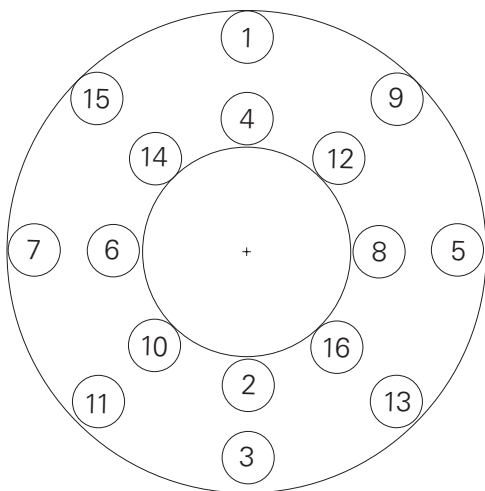

Figure 18
- (a) For the first 16 screws, bring the initial torque of each screw up to 33% of the torque value shown in Table 11 using the tightening sequence shown in Figure 18. Install and torque the remaining screws in any reasonable crosswise pattern to 33% of the torque value shown in Table 11.
- (b) Repeat the sequence of torque tightening on the first 16 screws as shown in Figure 18 and bring each screw up to 66% of the torque value shown in Table 11. Torque the remaining screws in any reasonable crosswise pattern to 66% of the torque value shown in Table 11.
- (c) Repeat the sequence of torque tightening on the first 16 screws as shown in Figure 18 and bring each screw up to 100% of the torque value shown in Table 11. Torque the remaining screws in any reasonable crosswise pattern to 100% of the torque value shown in Table 11.